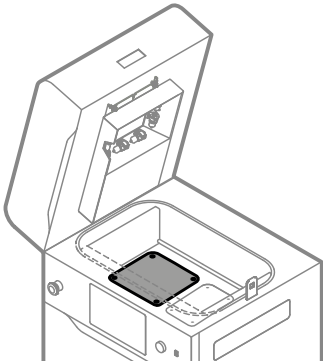

Fig. 12.40 Put on the Feed Bed cover.
22. Put on the Feed Bed cover (fig. 12.40).